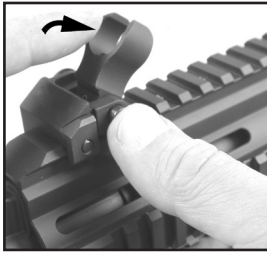

Fig. 12 – Folding (lowering)
2. Apply one drop of tread locking compound to the exposed threads of the clamping screw. Replace the clamping plate and tighten the clamping screw while pushing sight forward against the cross-slot (Fig. 11). To raise the sight, grasp and pull up until the sights locks in the upright position. To fold the sight, depress the button on the left side of the base and fold down. (Fig. 12)